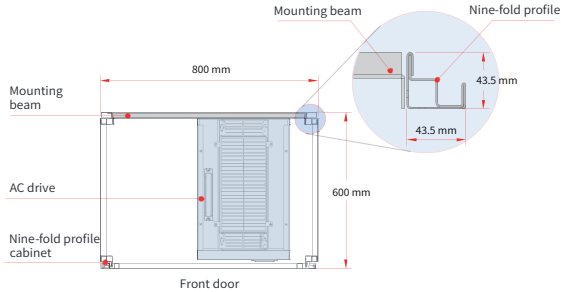

Figure 3-15 Top view of a 200–450 kW cabinet
- 1) A nine-fold profile cabinet (PS cabinet) is recommended. Figure 3-15 shows the cross section of the nine-fold profile cabinet.